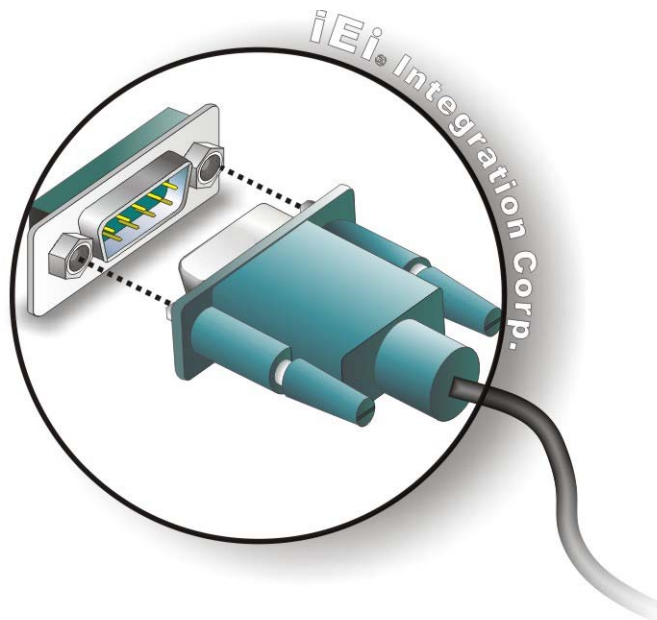

Figure 4-24: Serial Device Connector
Step 2: Insert the serial connector. Insert the DB-9 connector of a serial device into the DB-9 connector on the external peripheral interface. See **Figure 4-24**.